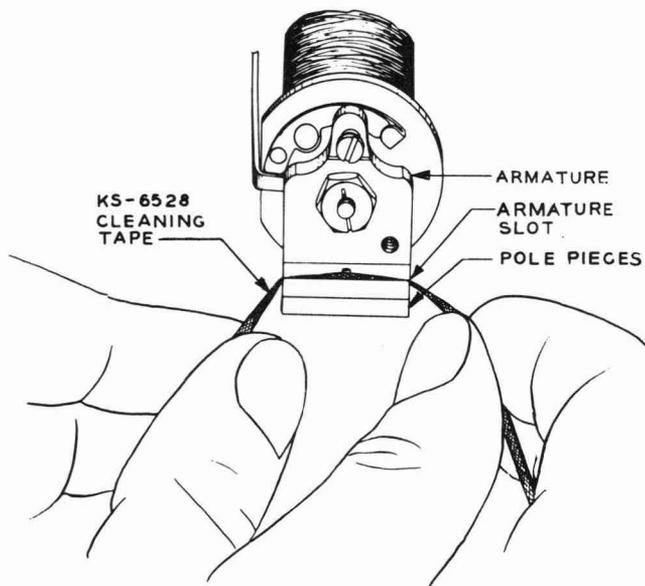

Fig. 55 – Method of Cleaning Front Portion of Armature Slot and Armature Knife-edge on 89-, 101-, 105-, 108-, 118-, 172-, and 190-type Relays
7.18 To clean the armature slot and the armature knife-edge, fold the tape lengthwise and pass it back and forth in the slot with the folded edge (not the outer edge) of the tape in the slot. Use the tape in the slot, both in front and in back of the armature, as shown in Fig. 55 and 56, respectively. After cleaning, see that the armature is properly seated in the slot.